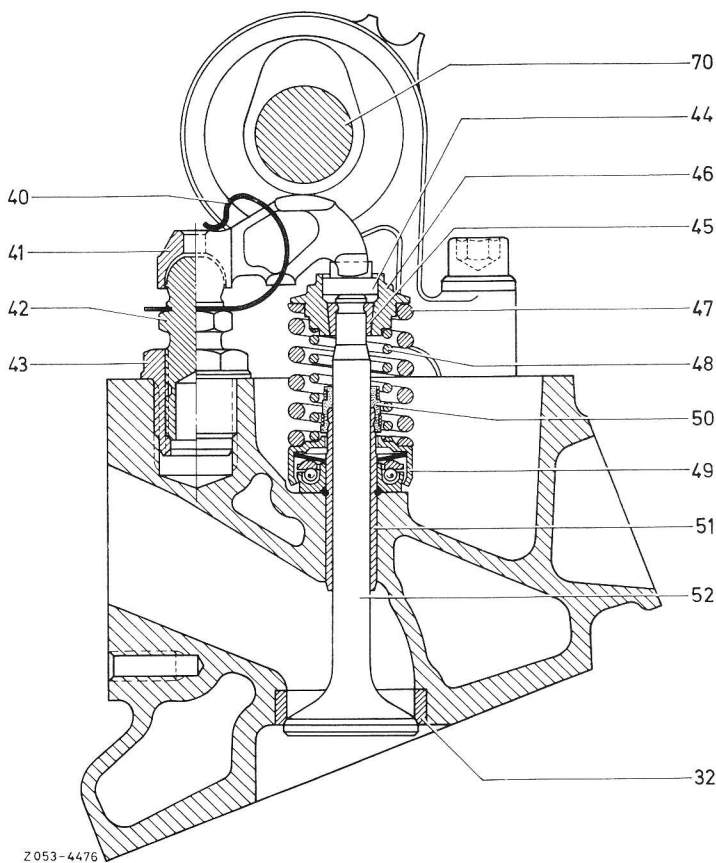

Fig. 1
Measure valve clearance between **slide surface of rocker arm (41)** and **basic cam circle of camshaft (70)** (Fig. 1).
1 For inspecting and adjusting the valves, set the camshaft cam for the pertinent valve in such a manner that the **tip of the cam** does not push on rocker arm but extends in the opposite direction and vertically to the sliding surface of the rocker arm (Fig. 1).